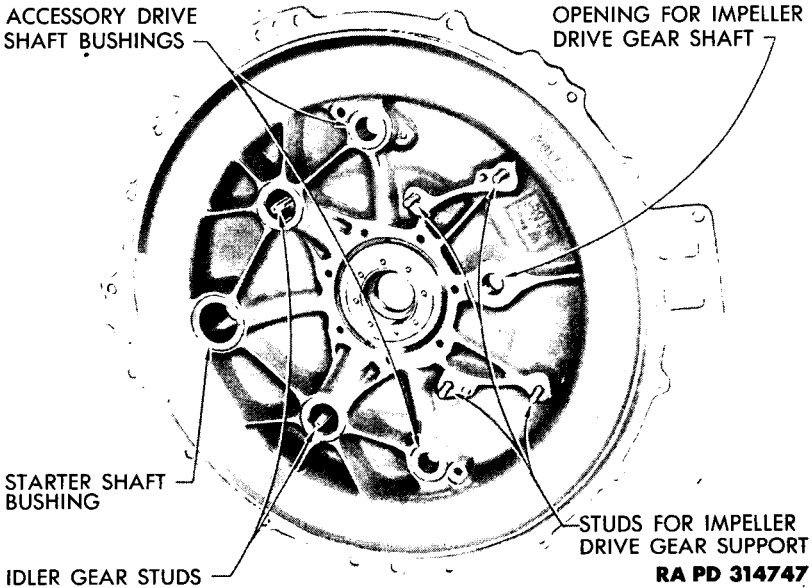

Figure 153 – Diffuser Section with Parts Removed
a. **Inspect Diffuser Section.** Check entire section for cracks or other indications of damage (fig. 153). Check points where pullers are attached during removal, to see that pullers have not damaged section. Check machined flanges at rim and bearing cages for scratches, burs, or roughness. Smooth scratches, burs, or rough spots